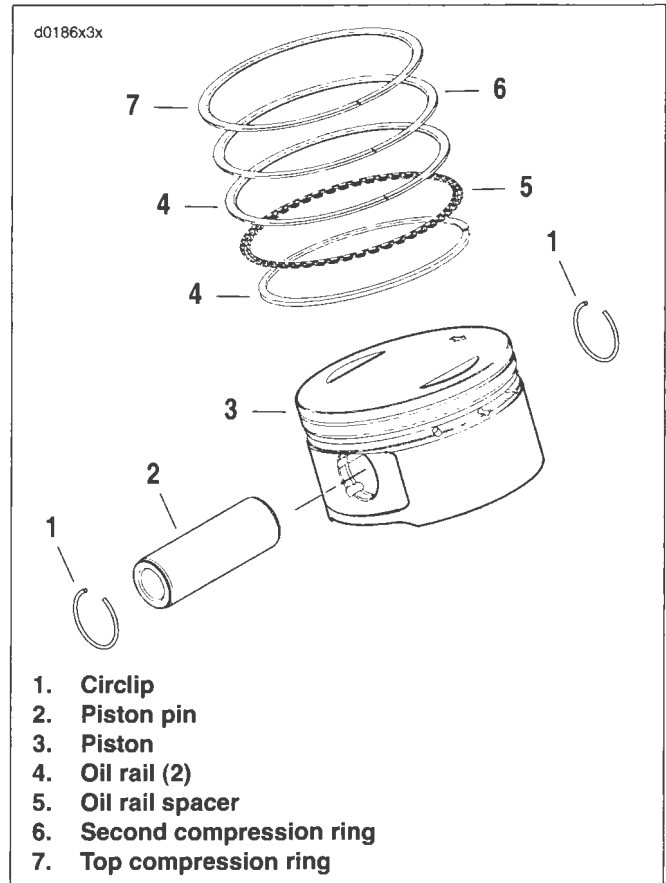

Figure 3-117. Piston Assembly
1. See Figure 3-117. Carefully remove top (7) and second (6) compression rings using the proper piston ring expander (Snap-On PRS8).
2. Using your fingers, remove the oil rail spacer (5) from the third ring groove. Remove top and bottom oil rails (4).